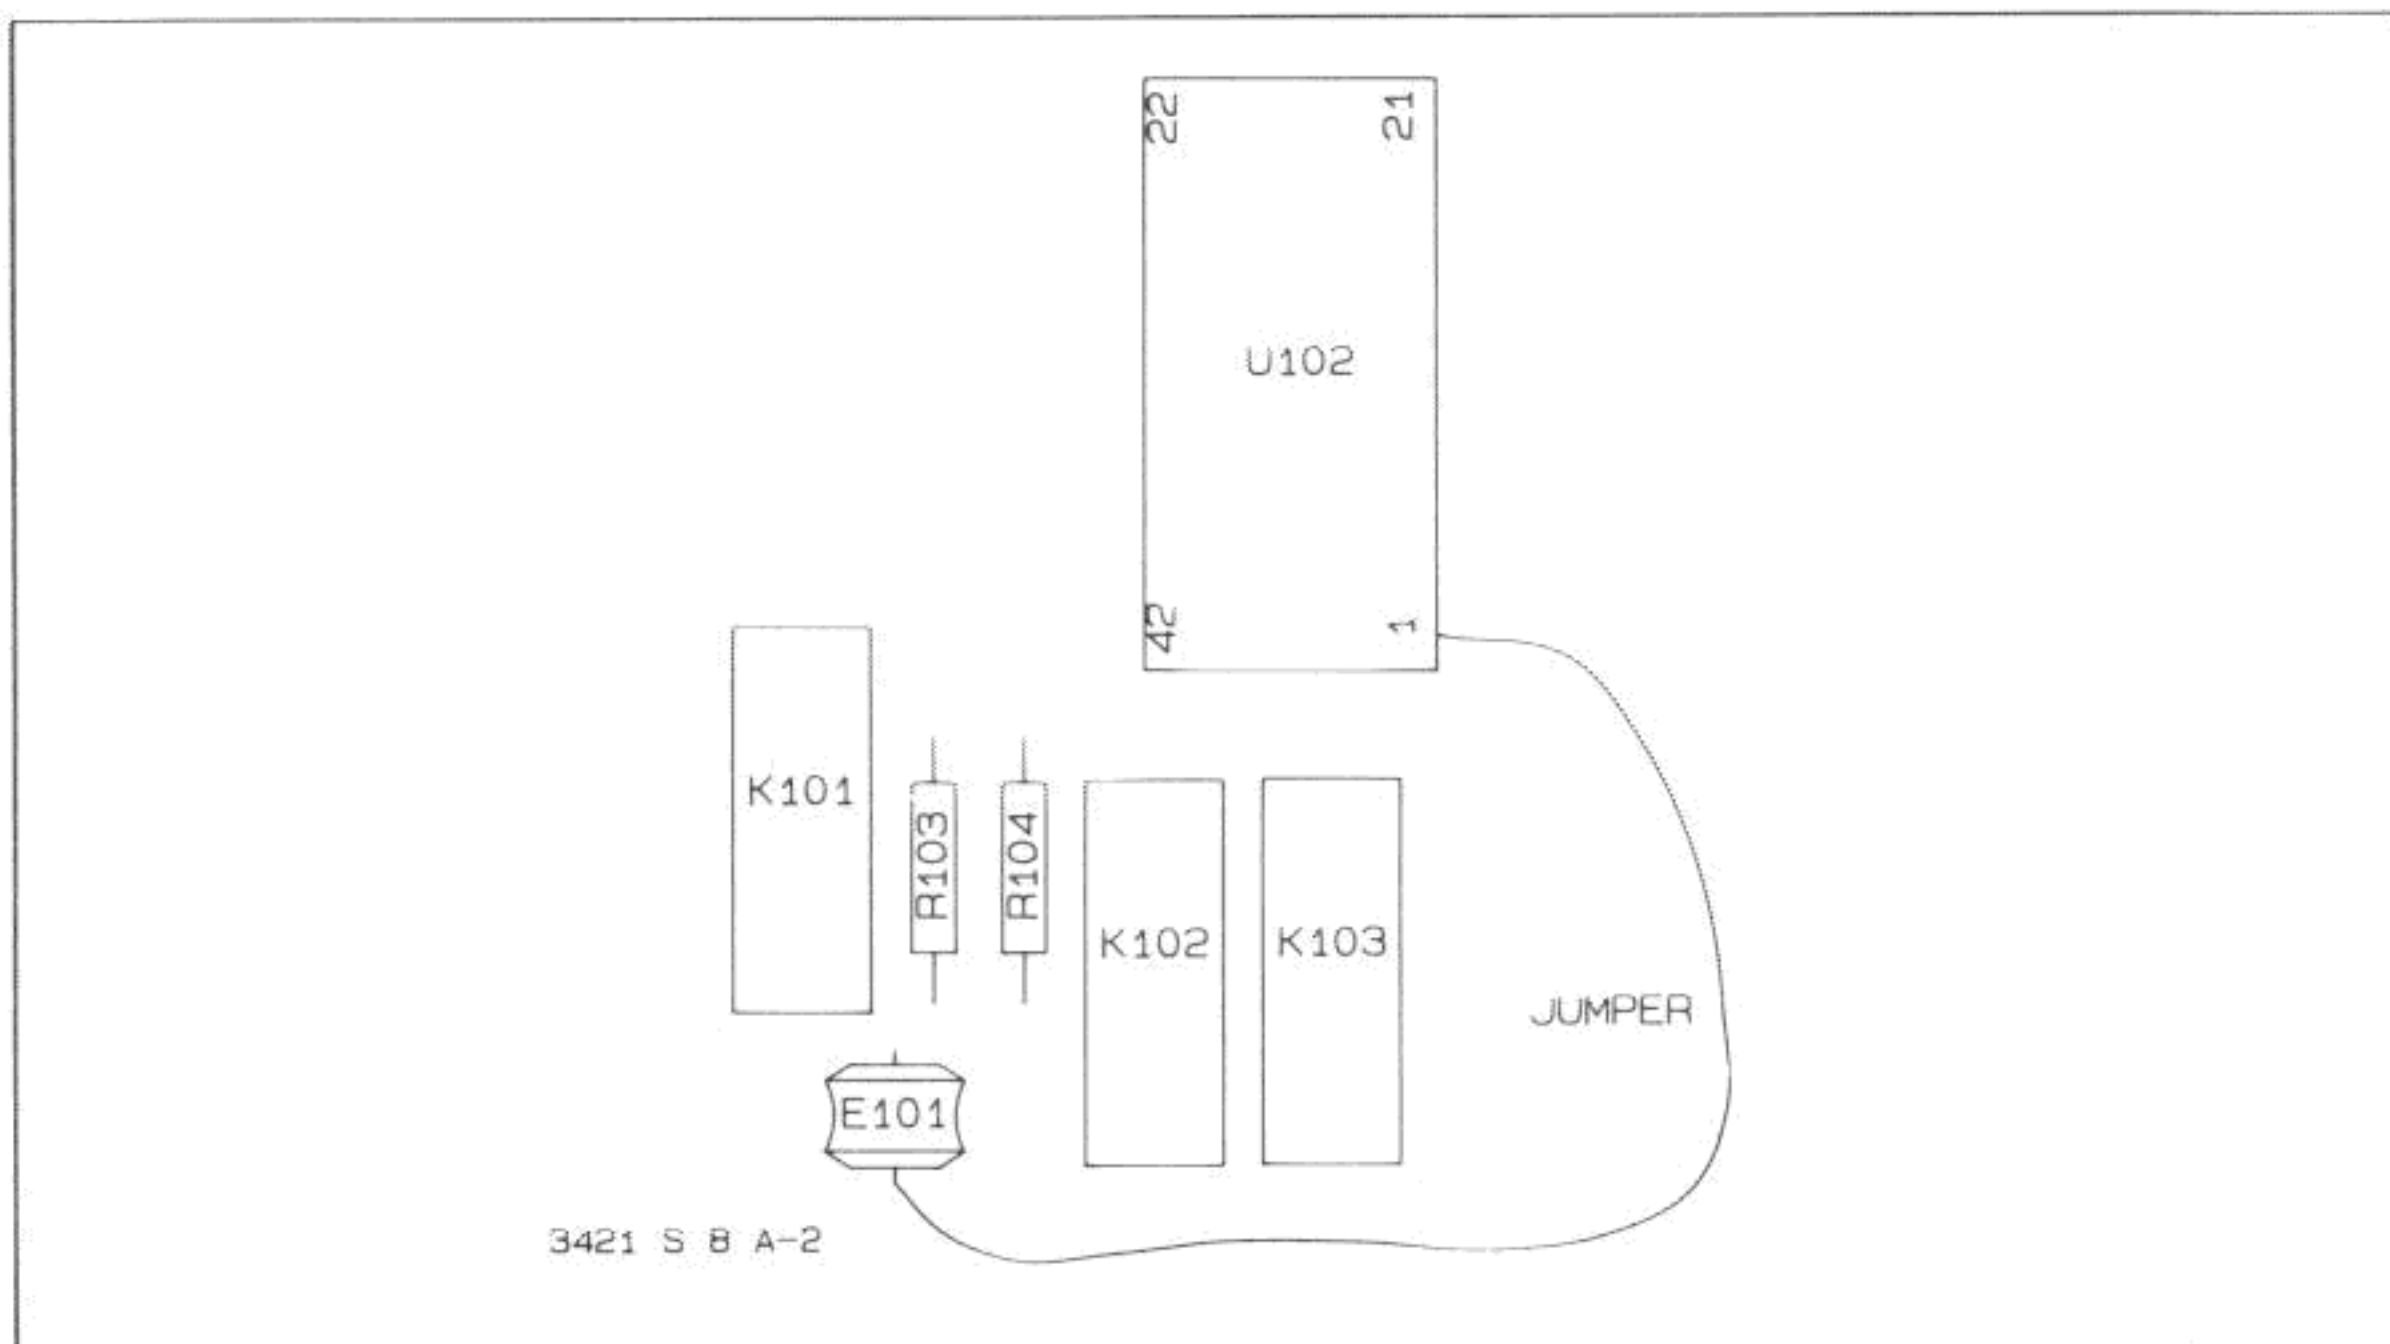

Figure 1-8-A-2. Shorting K103 Input to Output
1. Short the input and output of K103 together as shown in Figure 1-8-A-2.